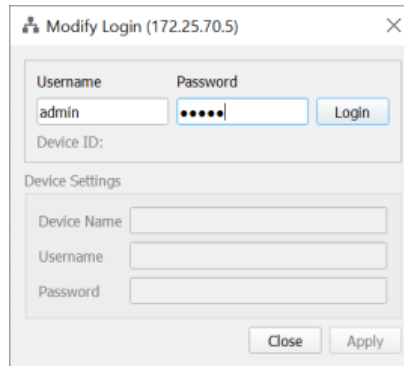

Figure 5-3 Modify Login Dialog Box
2. On the popup *Modify Login* dialog box (Figure 5-3), provide the RGA's current login credentials and press the **Login** button to log in. The default username and password are *admin/admin*.